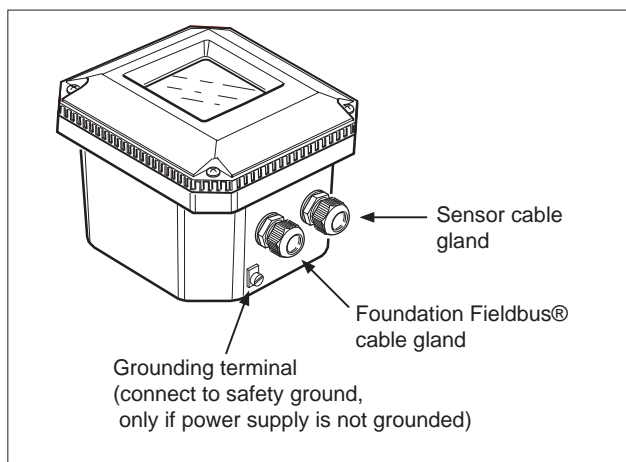

Figure 3.2 Glands to be used for cabling
The Foundation Fieldbus® connections and the sensor connections should be made in accordance with figure 3.2 and 3.3. The terminals are of a plug in style for ease of mounting.
The EXA 202 FF is provided with two cable glands. The first is used for the electrode wiring as the other is used for the power/foundation® Fieldbus wiring shown in figure 3.2.
4. Connect the sensor input, using the gland on the right (see figure 3.2). Switch on the power. Commission the instrument as required or use the default settings.